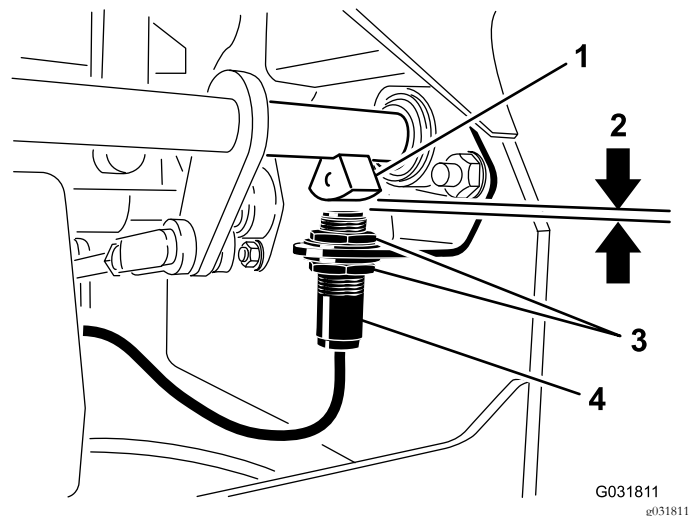

Figure 49
4. Move the switch up or down on the bracket until the distance between the brake-shaft sensor and the switch plunger is 4 mm (5/32 inch) as shown in Figure 49.